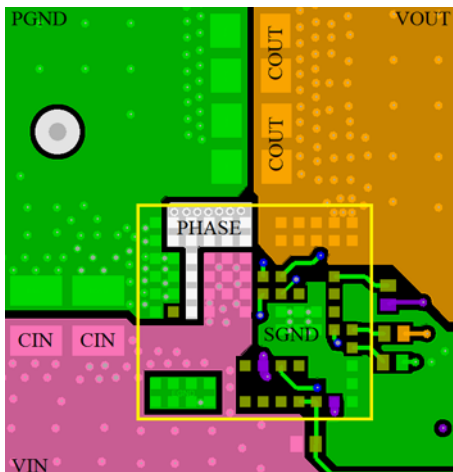

Figure 2. Layout Example - Top Layer
- (1) Renesas recommends using a six-layer PCB board. Use the top and bottom layer to route VIN and VOUT. Use a full ground plane in the internal layers (underneath the module) with shared SGND and PGND to simplify the layout design. Use another full ground plane directly above the bottom layer. Use the other internal layers to route the remote sense and PGOOD signals.
- (2) Place the input capacitors and high frequency decoupling ceramic capacitors between VIN and PGND as close to the module as possible. The loop formed by the input capacitors, VIN, and PGND must be as small as possible to minimize high frequency noise. Place the output ceramic capacitors close to VOUT. Use a copper plane to connect the output ceramic capacitors to the load to avoid any parasitic inductances and resistances. See Figures 2 and 3 for an example layout.
- (3) Use large copper planes for power paths (VIN, VOUT, and PGND) to minimize conduction loss and thermal stress. Use multiple vias to connect the power planes in different layers.
- (4) Do not oversize the copper planes for the PHASE planes. Because the PHASE planes are subjected to very high dv/dt, the parasitic capacitor formed between these planes and the surrounding circuitry tends to couple the switching noise. Ensure that none of the sensitive signal traces are routed close to the PHASE plane.